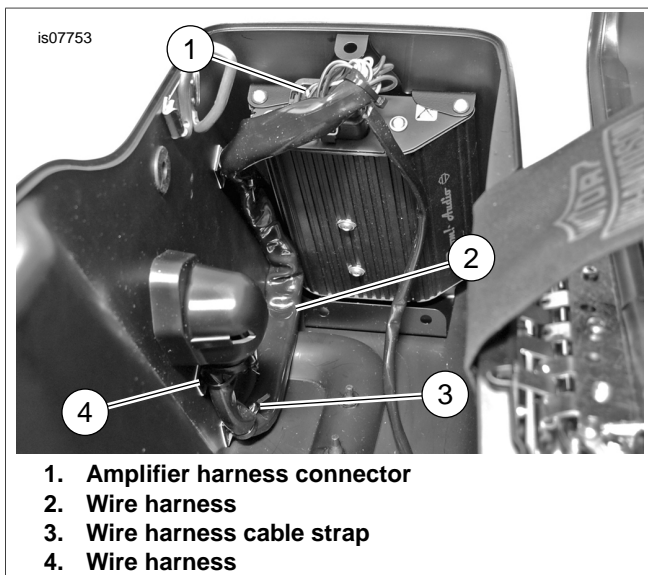

Figure 8. Inner Harness Routing
8. See Figure 8. Clean the inside bottom and side surfaces of the saddlebag with a mixture of 50-70 percent isopropyl alcohol and 30-50 percent distilled water. Connect the amplifier end of harness (69200488) and route the saddlebag side harness inside the left saddlebag. Secure with cable straps and bases as shown.